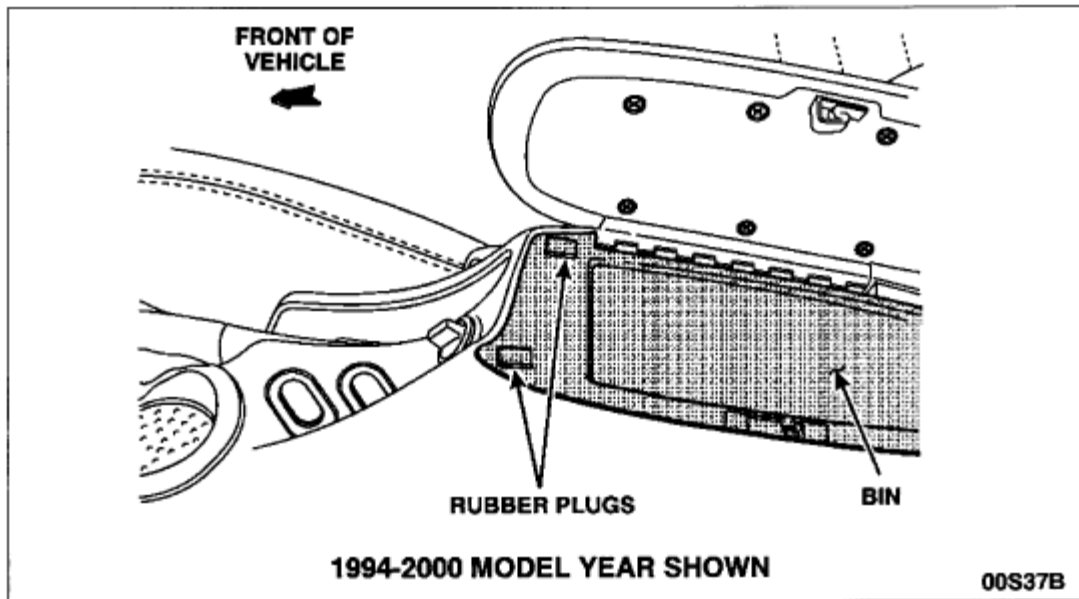

FIGURE 2
4. On 1994-2000 model year vehicles, open the console compartment door. Remove the rubber plugs, then remove the screws from beneath the plugs and remove the bin. See Figure 2.